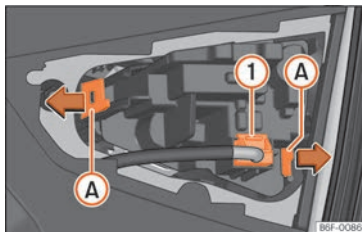

Fig. 60 Remove the bulb holder.
- Remove the bulb connector »» Fig. 60 ⓘ.